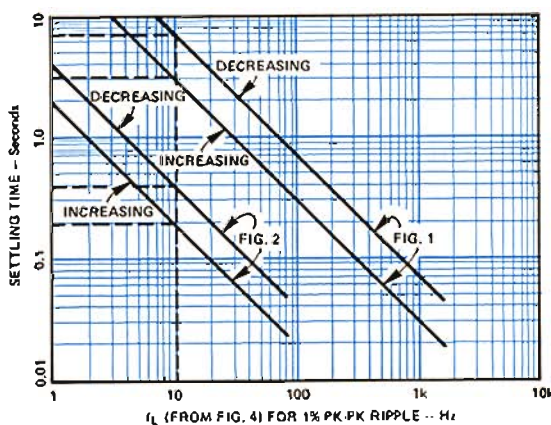

Figure 5. Settling time to 1% of step change of rms for the circuits of Figures 1 and 2, as a function of  $f_L$ .
4. To find the settling time to <1%, use  $f_L$  corresponding to 1% ripple for the chosen  $C_1$ , and consult Figure 5. Find the value for settling time at the intersection of  $f_L$  and each direction of input-rms change (increasing and decreasing).
*Example 2.* Let  $f_L = 20\text{Hz}$  for  $\rho < 0.1\%$  p-p ripple. Then,  $C_1 = 1.7\mu\text{F}$ ,  $C_{EXT} = 1.5\mu\text{F}$ ,  $C_2 = 0.85\mu\text{F}$ , and  $C_3 = 0.6\mu\text{F}$ . To determine the settling time to <1%, find  $f_L$  for  $C_1 = 1.7\mu\text{F}$  and 1% ripple (10Hz), then use Figure 5 to find  $t_{si} = 0.2\text{s}$ ,  $t_{sd} = 0.4\text{s}$ .